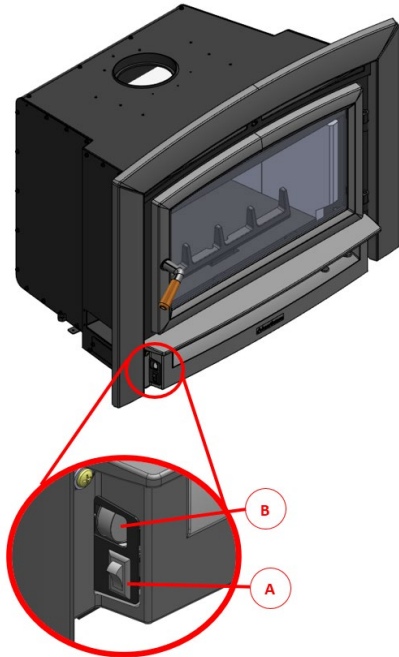

Figure 12 - Switch and Rheostat for Blower Control
Locate the switch and Rheostat in the lower left-hand side of the bottom faceplate (see figure 12). To operate, turn the Rheostat switch (B) clockwise (upward). The blower can then operate in automatic or manual mode. To choose the mode, just press the rocker switch (A) to the UP position for automatic mode or DOWN for manual mode.